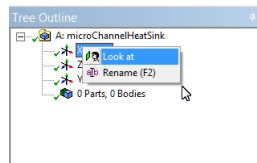

Figure 6: Selection of XY Plane in the Tree Outline of DesignModeler.
- In the *Tree Outline* on the left, right-click on *XYPlane* and select *Look at* (figure 6).